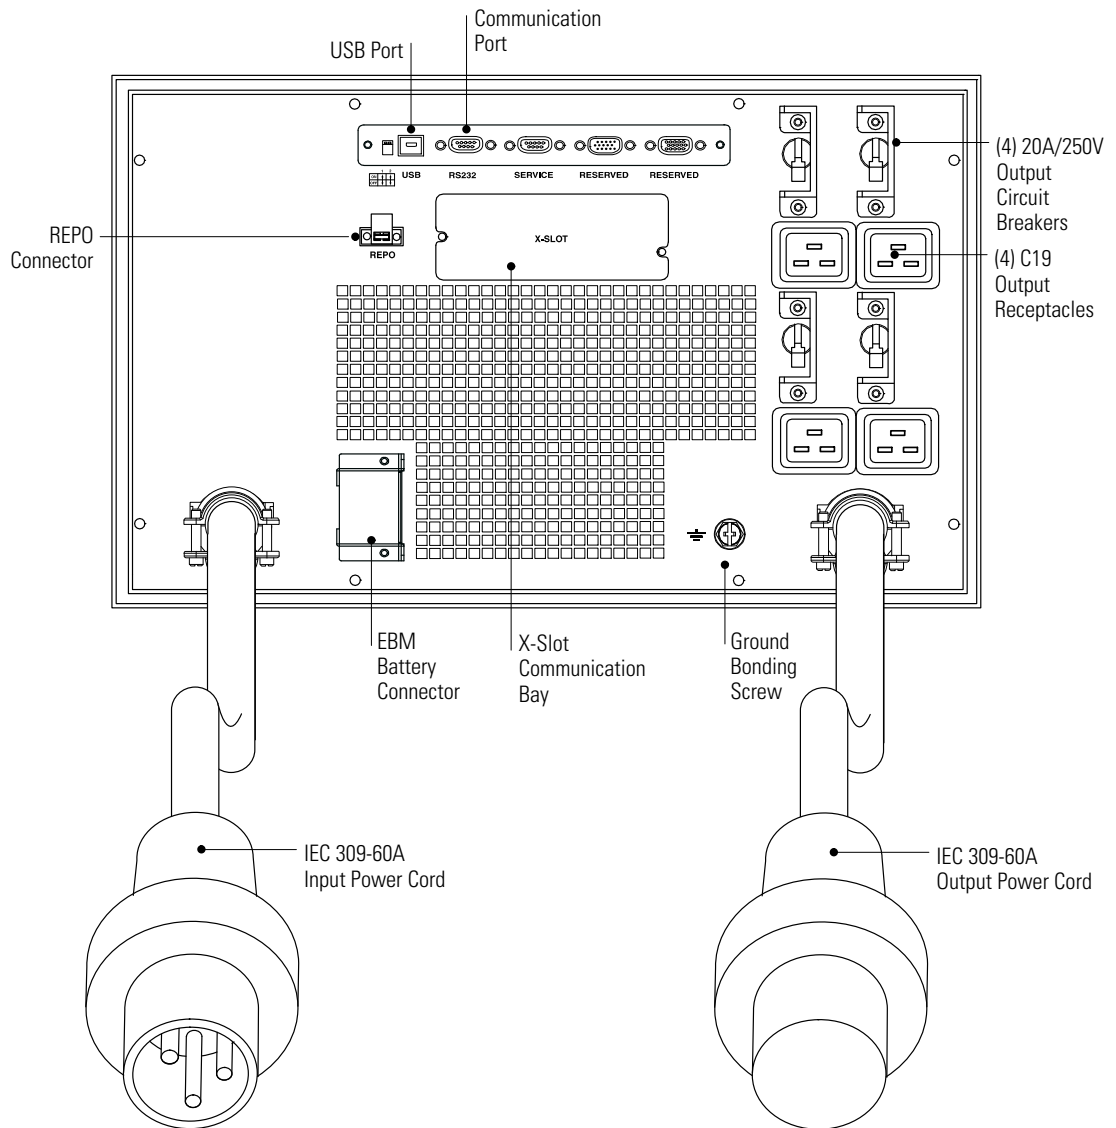

Figure 27. Plug-Receptacle UPS Rear Panel
1. Verify that all circuit breakers are in the OFF (O) position.
3. If your rack has conductors for grounding or bonding of ungrounded metal parts, connect the ground cable (not included) to the ground bonding screw. See Figure 27 on page 47 for the location of the ground bonding screw.
4. Plug the equipment to be protected into the UPS output receptacles, but do not turn on the protected equipment (see Figure 27).